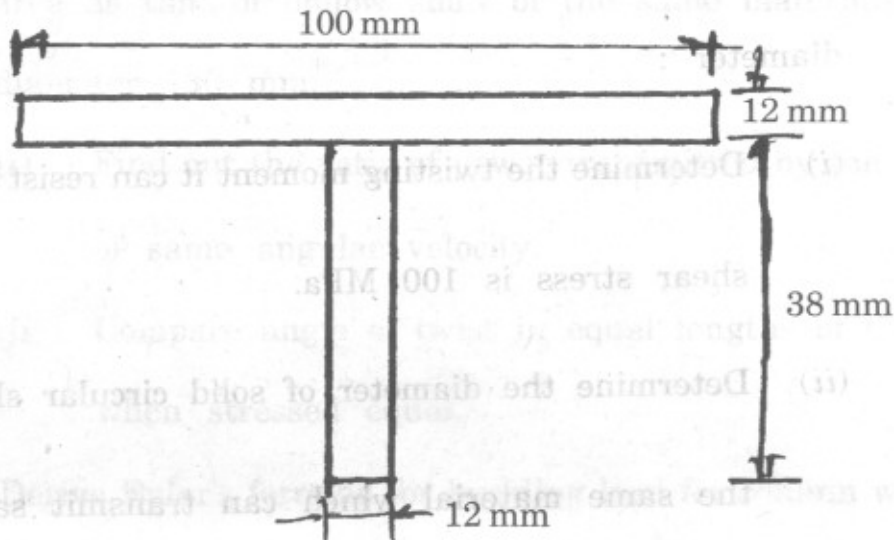

Fig. 9
8. (a) A cantilever beam has 'T' shaped cross-section. It is acted upon by a clockwise couple 'M' at free end. Determine 'M' if allowable stresses in bending in tension and compression are 40 MPa and 105 MPa respectively. Fig. 9 shows the dimensions. [8]